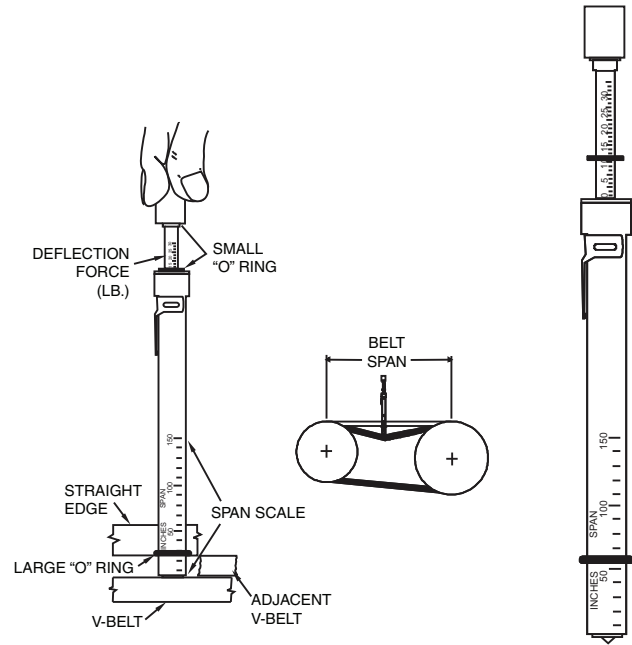

Fig. 48 — Fan Belt Tension
V-Belts — When installing or replacing belts, always use a complete set of new belts. Mixing old and new belts will result in the premature wear or breakage of the newer belts. See Fig. 48.
1. Measure the belt span (see Fig. 48).